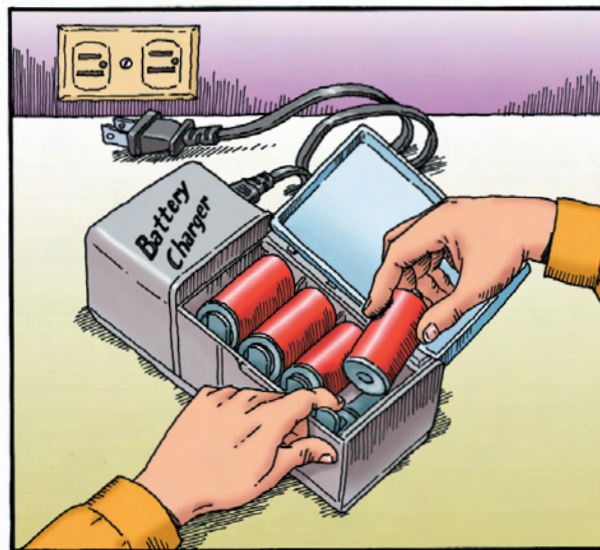

Figure 3.2 Unplug the battery charger before adding or removing batteries. Make sure the batteries are placed correctly in the charger.
4. Put your battery in the battery charger, as shown in Figure 3.2, and plug in the charger for 3.0 minutes.